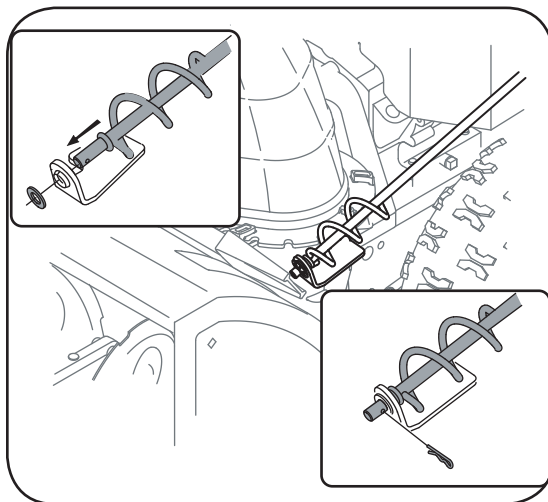

Figure 3
- Remove the flat washer and hairpin clip from the end of the chute directional control. See Figure 3.